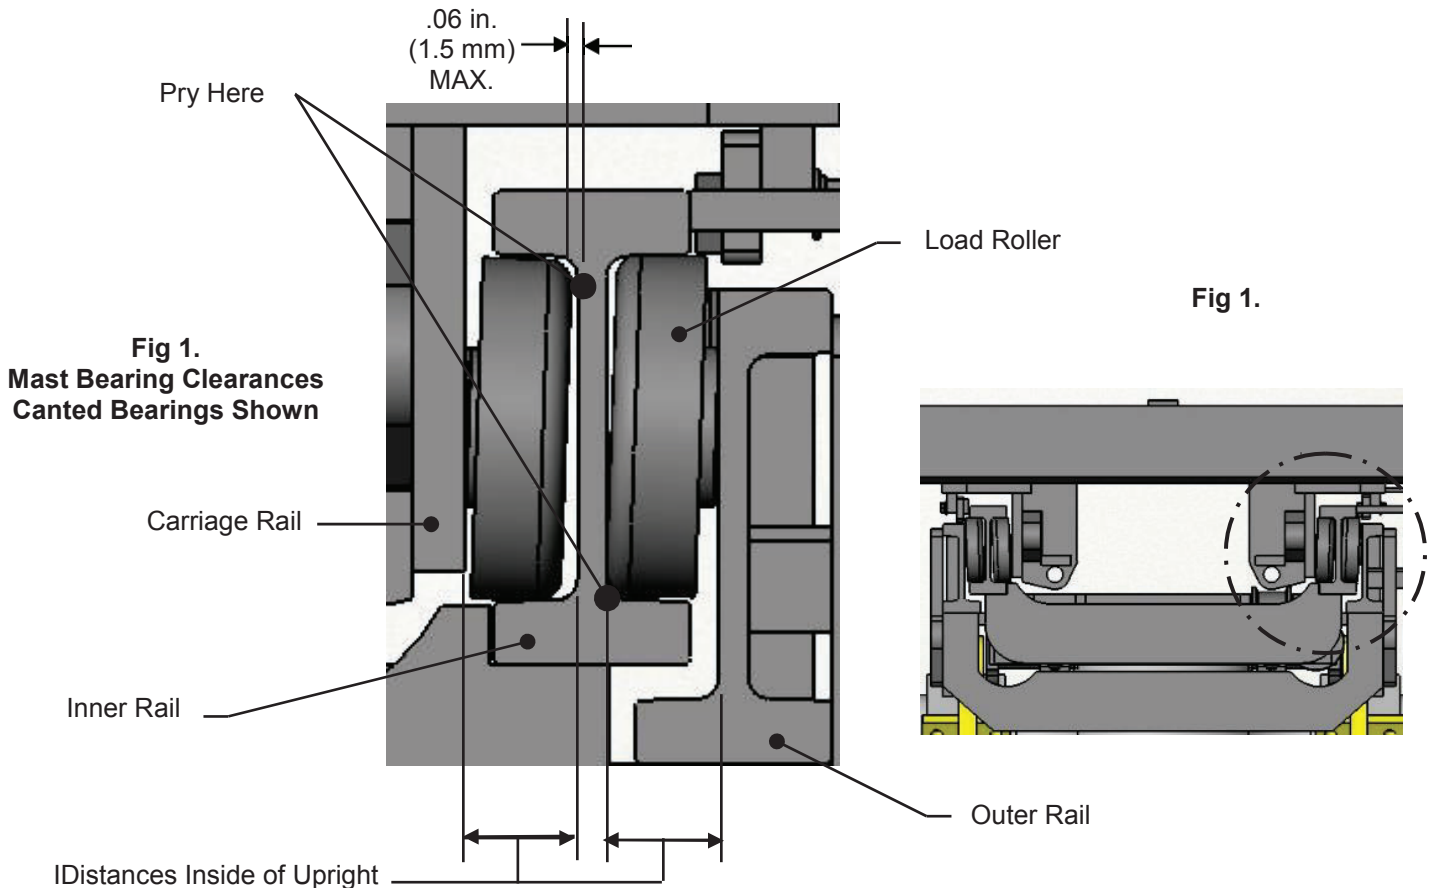

Fig 2.
Straight Mast Bearing – Typical for Fabricated Rail (Shown in Fig 2 and 3)
- b. Adjust set screws so the uprights and carriage distances are equal. Tighten locking nut to secure set screw. (See Fig 2 and 3)